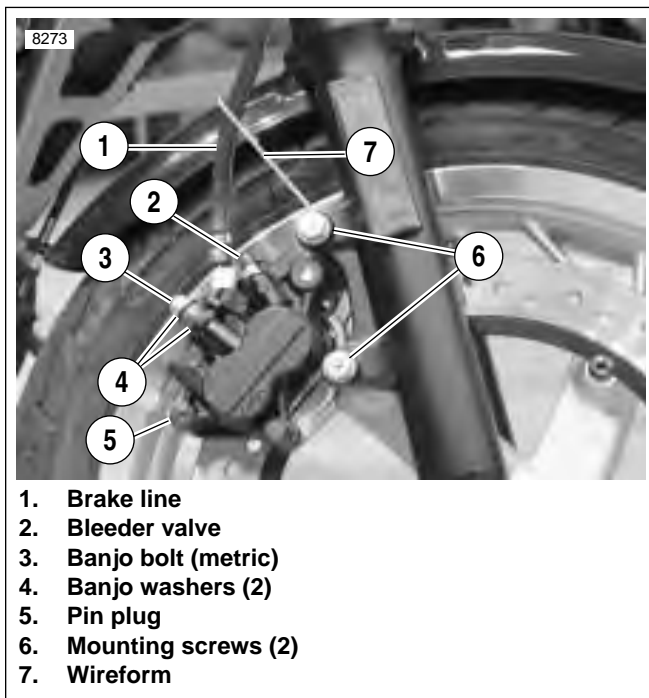

Figure 2-38. Front Brake Caliper
2. See Figure 2-38. Remove banjo bolt (3) (metric) and two banjo washers (4) to disconnect brake line (1) from caliper. Discard banjo washers.
4. See Figure 2-38. Detach caliper from mounts.
- a. Remove lower mounting screw (6).
- b. Remove upper mounting screw (6) and brake line wireform (7) while supporting caliper above brake rotor.